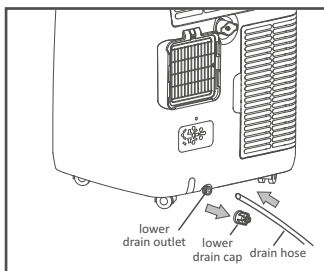

fig. 2
- Turn on the device and select DRY mode. Water captured from the air will be continuously drained from the device. For this unit, it is possible to drain condensation from two drain holes: lower (fig. 2) and upper (fig. 3).